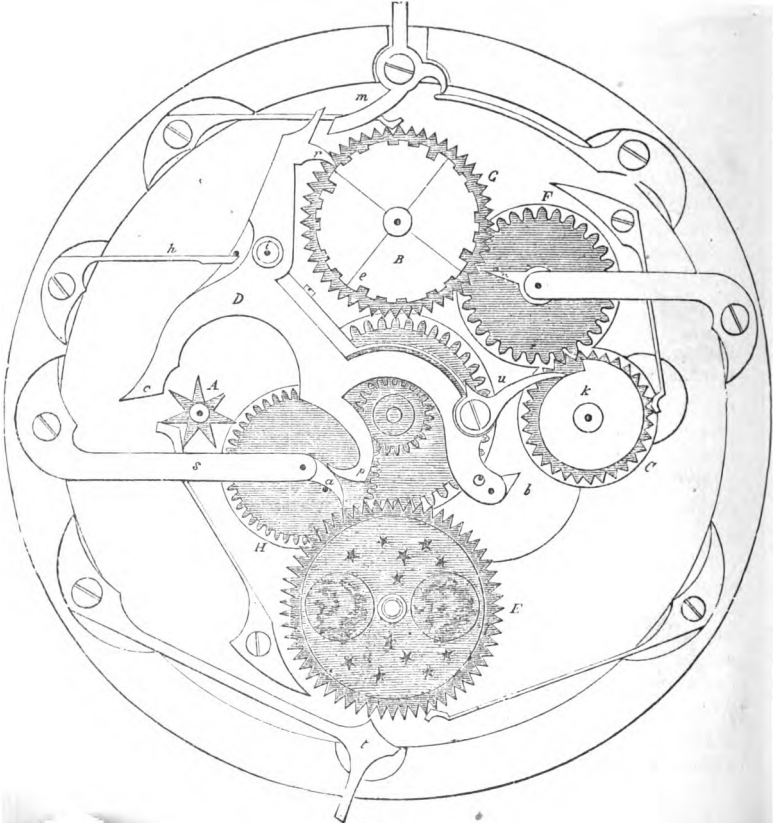

Fig. 6.
**Perpetual Calendar Watch.**—The wheel  $H$  (Fig. 6), driven